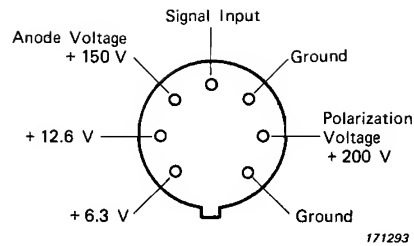

Fig.2.2. PREAMP. INPUT (viewed from rear of connection plug or outside of socket)
- PREAMP. INPUT:** 7 pin socket for connection of B & K microphones via their preamplifier. The input impedance is $900\text{ k}\Omega // 50\text{ pF}$. For connections see Fig.2.2.